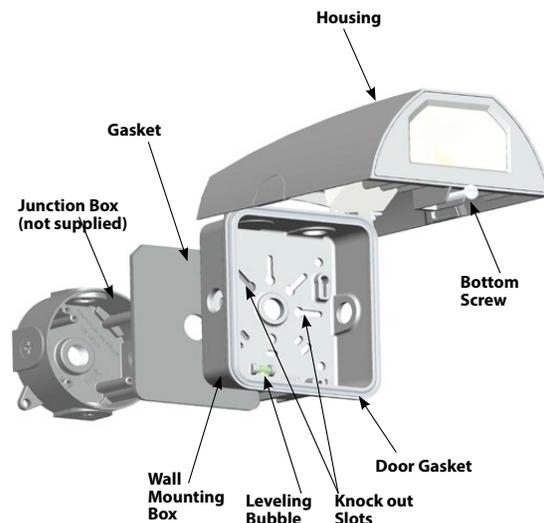

Fig. 1
3. Secure fixture on top hinges as shown in Fig 1 for hands free wiring.